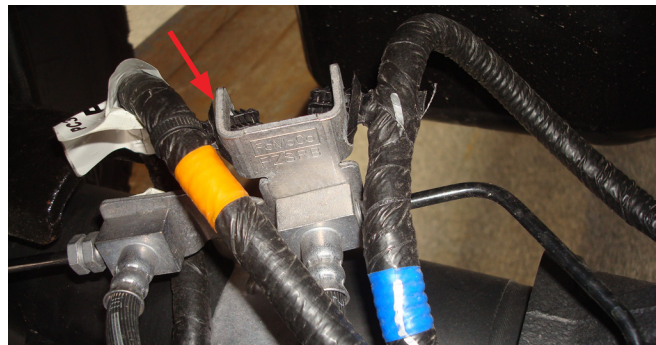

Fig. 8
6. Pry out the left ABS harness mount from the left (driver's) side brake line/ABS harness/vent tube bracket (on the axle) at the top and bottom mounting locations (Figs. 8 & 9).